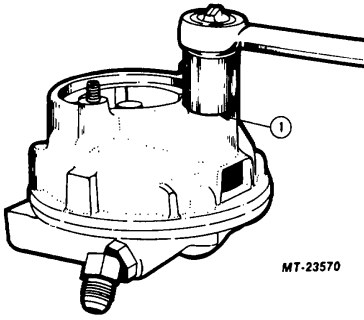

Fig. 13 Remove Valve Cap
5. Loosen but do not remove flow control valve cap, Figure 13.